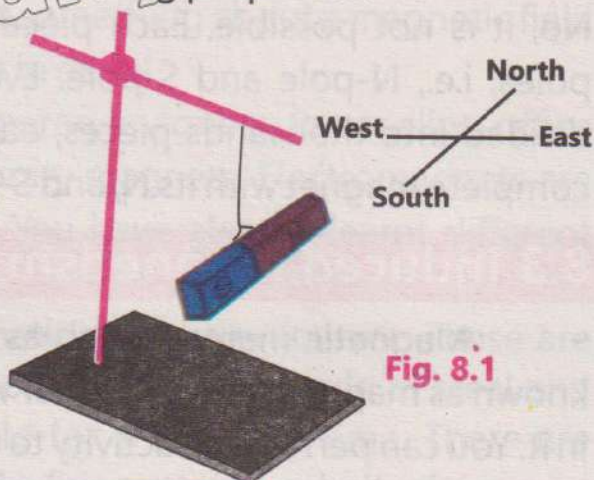

Fig. 8.1
If a bar magnet is suspended horizontally through a string and allowed to come to rest, it will point in north-south direction. The end of the magnet that points north is called the **north magnetic pole (N)** and the end that points south is the **south magnetic pole (S)** as shown in Fig. 8.1.